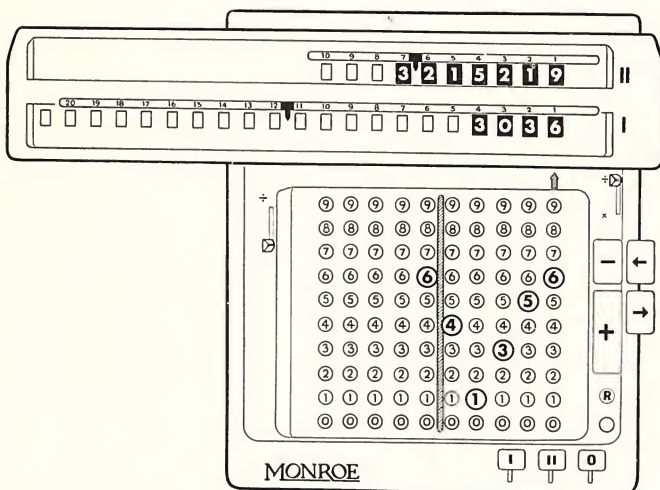

Figure 14
Step 5—Push automatic divide lever. The final result will appear as in Figure 14.
The example of Figure 14 illustrates the advantage of setting the upper dials decimal marker at one place more than the number of places required for the quotient. In the first upper dial or in the sixth decimal place is a 9. Therefore, the quotient should be read as 3.21522 and not 3.21521, which would have been the incomplete quotient if the upper dials decimal had been set at five places instead of at six.